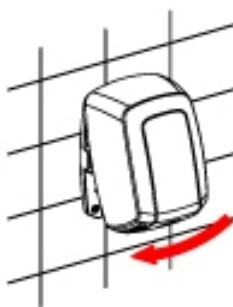

**Figure 7.**
- Connect the electrical cables to the hand dryer's terminal strip. Connect the cables corresponding to the two phases (N and L) and to earth in the corresponding sockets of the terminal strip, as indicated by the engraved letters (Figure 7).